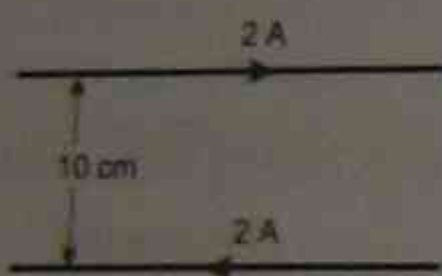

Figure 7.9
- 6 Two parallel wires each carry 2 A of current as shown in Figure 7.9. The wires exert a force per unit length on each other of: